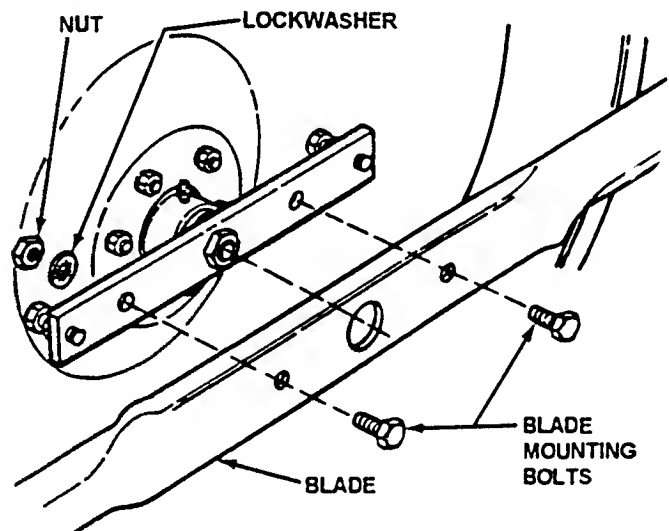

FIGURE 4.21
2. Remove blade. See Figure 4.21.
6. Reinstall blade. Refer to Figure 4.21. Torque blade mounting bolts to recommended range of 30 to 40 ft. lbs.